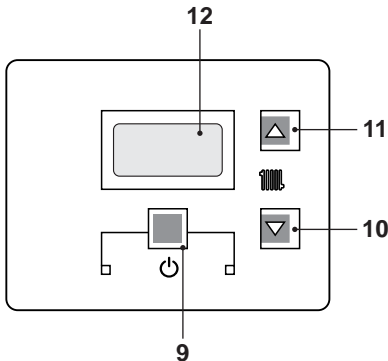
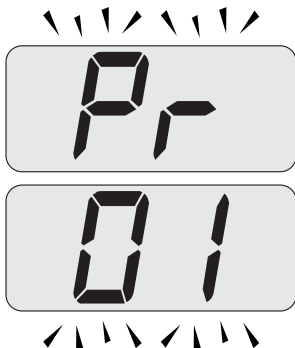
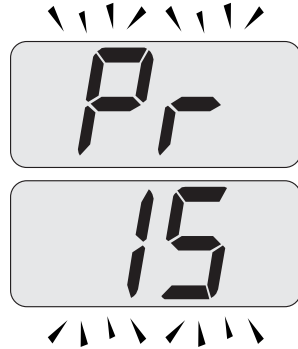

Fig. 7.17
Fig. 7.18
Fig. 7.19
- Enter in "programming mode" by pressing keys 9- 10- 11(Fig. 7.17) for 10 seconds at the same time until the letters **Pr** that alternate with code 01 are displayed on the LCD display, indicating that "parameter **01**", has been activated (Fig. 7.18).
- Scroll the various parameters using keys 10or 11until the letters **Pr** that alternate with code **15** are displayed on the LCD display, indicating that "parameter **15**"(Fig. 7.19) has been activated.
- Press keys 9and 11(Fig. 7.17) at the same time until the value of parameter 15 (Fig. 7.20) is displayed on the LCD display.
- By pressing key 9(Fig. 7.17) confirmation of the inserted value is obtained.
- Press keys 9and 10(Fig. 7.17) at the same time to exit without changing the value (return to the parameters list Fig. 7.19)
- Press keys 9- 10- 11(Fig. 7.17) at the
However, if the ambient temperature is not comfortable, the flow temperature of the heating plant can be increased or reduced by $\pm 15^\circ\text{C}$ by acting on keys 10(reduce) and 11(increase) (Fig. 7.17).